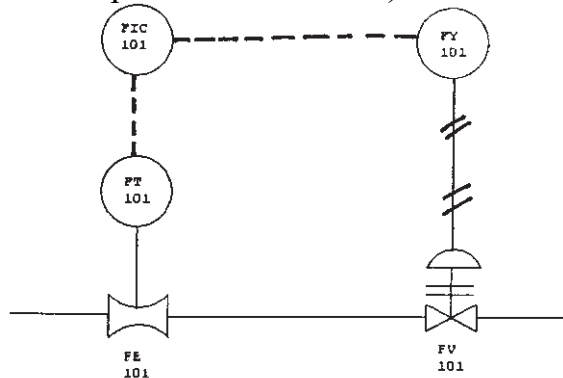

Figure 1
Q3) a) For the following figure 1 give the naming conventions as per ISA standard.
- b) Explain the symbols used in Figure 1. [5]
- c) Prepare an instrument index sheet for the loop shown in figure 1. [4]
- b) Prepare a Loop drawing for the Loop shown in figure 1. [10]
- b) Prepare BOM for FT-101 shown in figure 1. [8]